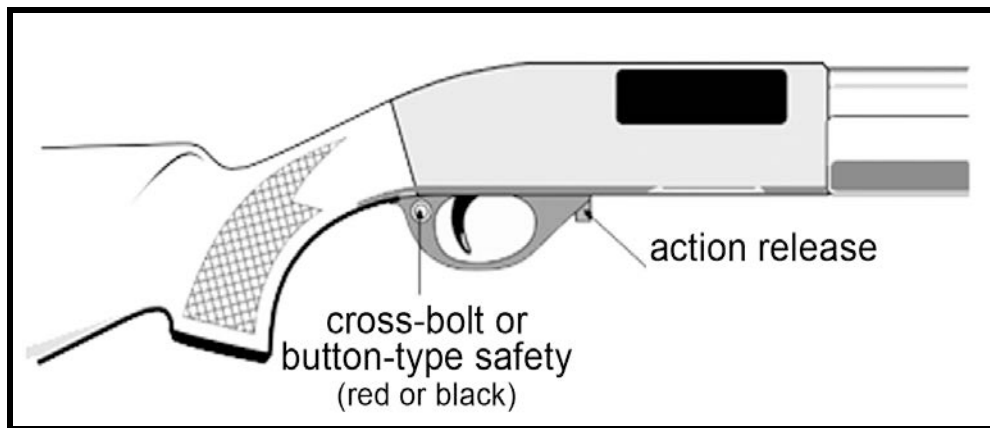

Figure 45. Cross-bolt safety
- a. The cross-bolt safety (Figure 45) is a push-button type of safety. It is common on many types of firearms. It works by blocking the trigger mechanism or hammer.